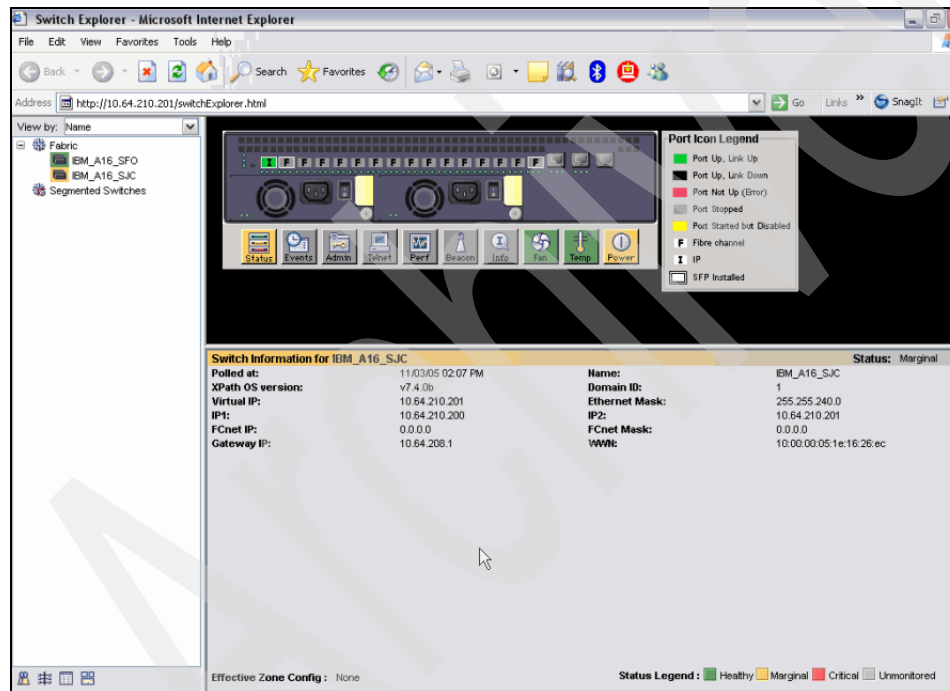

Figure 6-57 Starting point for EX\_Port configuration
1. We start at the WebTools main window, as shown in Figure 6-57.